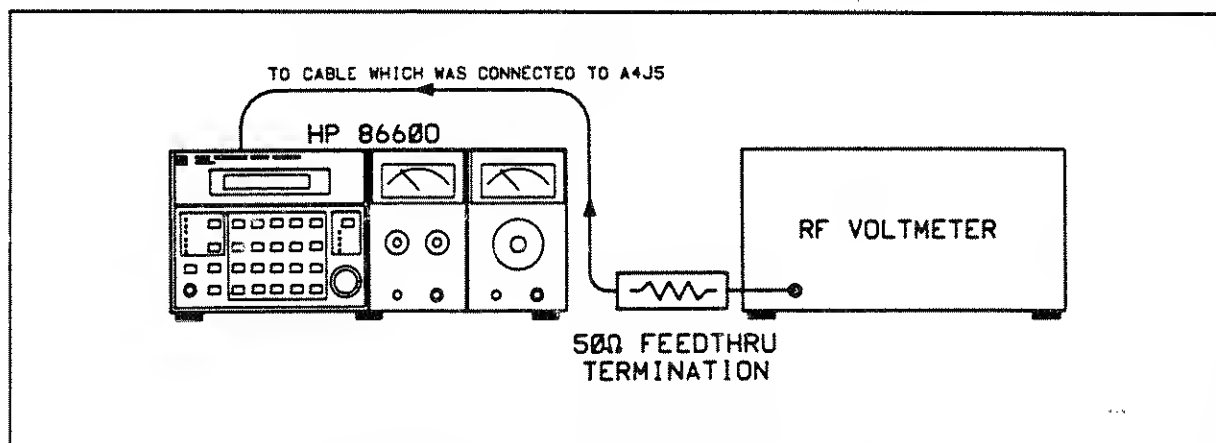

Figure 5-10. A22A1 Adjustment Test Setup
1. Set up test equipment as shown in Figure 5-10.
3. Remove 10 MHz Reference input cable from A4J5. Connect the cable to the RF Voltmeter as shown in Figure 5-10.